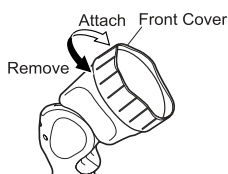

Fig. 3
a. Remove the front cover. (Fig. 3)